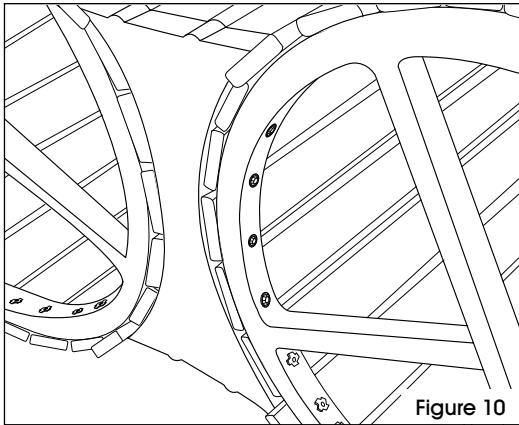

Figure 10
14. Carefully lay the attached receptacles on their side and attach the connector to the second receptacle at the bottom ring using the 3 1/2" lag screws and flat washers. (See Figure 10)